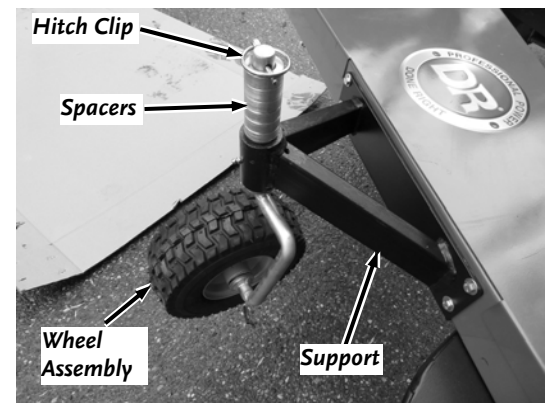

Figure 27
1. Remove the Hitch Clip and remove the Wheel Assembly with Spacers (**Figure 27**).